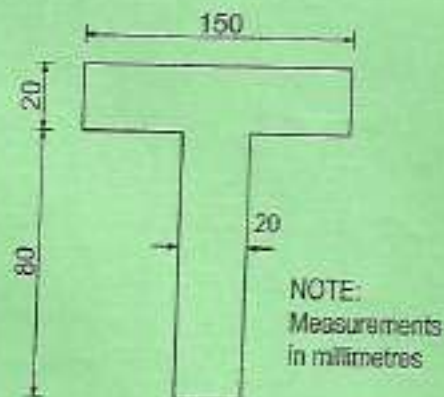

FIGURE 5
- (b) Figure 5 shows a beam section which is subjected to a shear force of 120 kN. Plot the horizontal shear stress distribution diagram across the section indicating values at critical points. (10 marks)